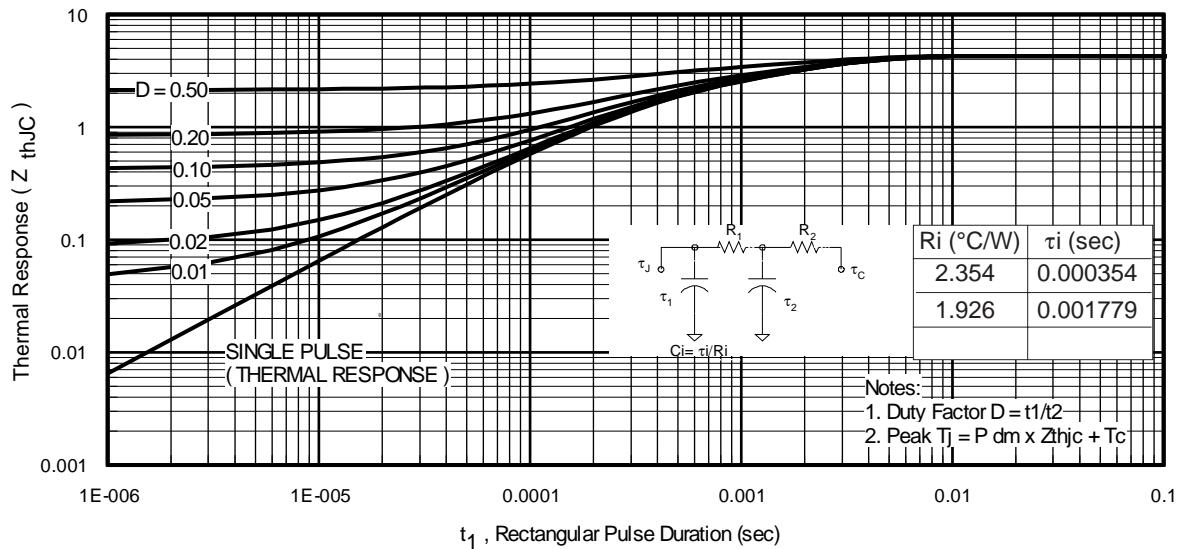
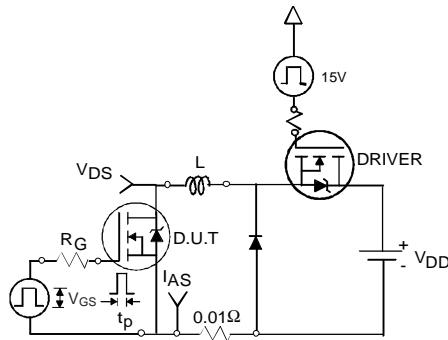

Fig 11. Maximum Effective Transient Thermal Impedance, Junction-to-Case
Fig 12a. Unclamped Inductive Test Circuit
3. Equation below based on circuit and waveforms shown in Figures 12a, 12b.
$Z_{thJC}(D, t_{av})$ = Transient thermal resistance, see figure 11)
- ① Repetitive rating; pulse width limited by max. junction temperature. (See fig. 11).
- ② Limited by $T_{J\max}$, starting $T_J = 25^\circ\text{C}$, $L = 0.54\text{mH}$ $R_G = 25\Omega$, $I_{AS} = 9.6\text{A}$, $V_{GS} = 10\text{V}$. Part not recommended for use above this value.
- ③ Pulse width $\leq 1.0\text{ms}$; duty cycle $\leq 2\%$.
- ④ $C_{oss\ eff}$ is a fixed capacitance that gives the same charging time as C_{oss} while V_{DS} is rising from 0 to 80% V_{DSS} .
- ⑤ Limited by $T_{J\max}$, see Fig.12a, 12b, 15, 16 for typical repetitive avalanche performance.
- ⑥ This value determined from sample failure population. 100% tested to this value in production.
- ⑦ When mounted on 1" square PCB (FR-4 or G-10 Material). For recommended footprint and soldering techniques refer to application note #AN-994.
- ⑧ R_θ is measured at $\text{A}_\theta = 10\text{W}$ for $V_{DS} = 10\text{V}$ and $f = 100\text{Hz}$.